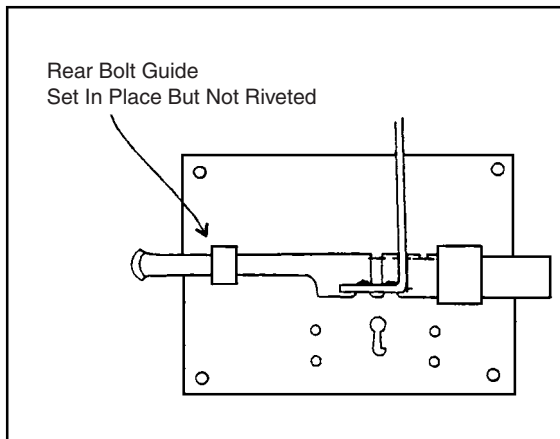

Figure 23.9 Set the tail of the spring.
18. The tail of the mainspring should be forged approximately 3 inches long, $\frac{3}{16}$ inch thick, and $\frac{1}{4}$ inch wide. Shape the tail of the spring as shown in Fig. 23.9. The bottom edge of the tail should be slightly above the bottom edge of the bolt.